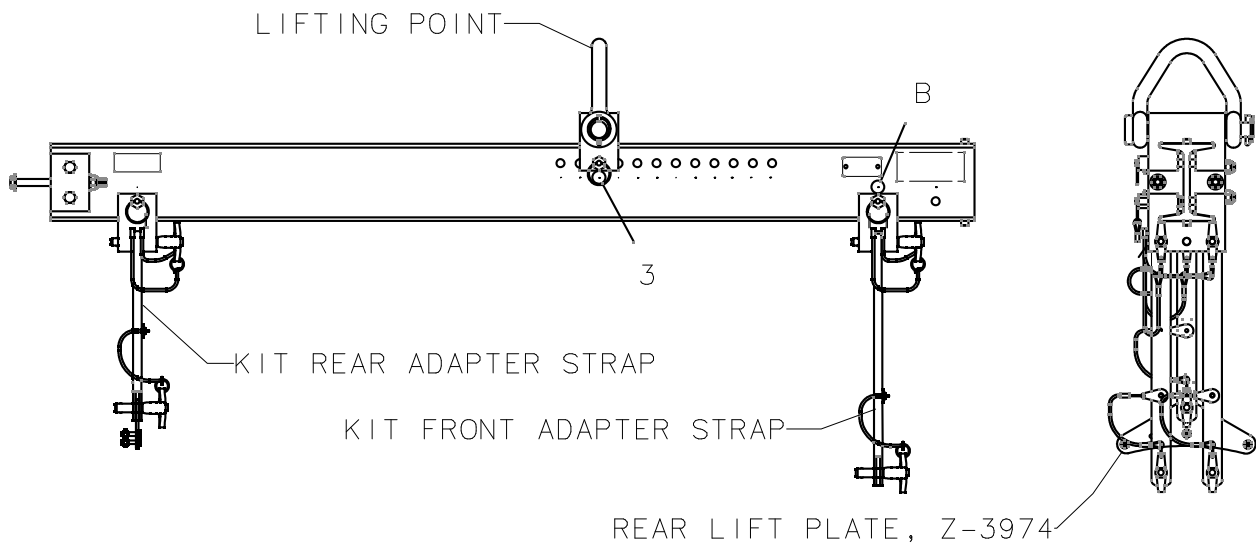

FIGURE 3
1. Install front slide block in position "B" and lifting point slide block in position "3". Ensure that all lifting straps have been securely installed into the slide blocks (*see Figure 3*). For storage, the strap kit retaining ring may be placed into one of the unused holes in either of the slide blocks.